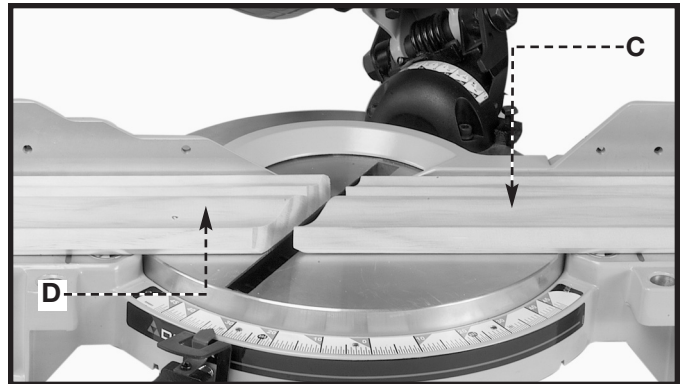

Fig. 44
5. Place the crown molding on the table with the **WALL EDGE** of the crown molding against the fence and make the cut. Again, the piece of crown molding used for the outside corner will always be on the right side of the blade, (C) Fig. 44. The piece of crown molding used for the inside corner will always be on the left side of the blade (D) Fig. 44